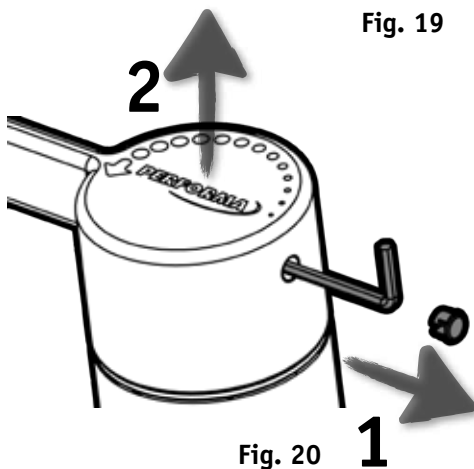

Fig. 20
4) Remove the **PLASTIC CAP 8** (*if applicable*) and loosen the **HANDLE SCREW 9** from the rear of the handle using 3mm **ALLEN KEY** and remove the **HANDLE 1** (**Fig. 20**)